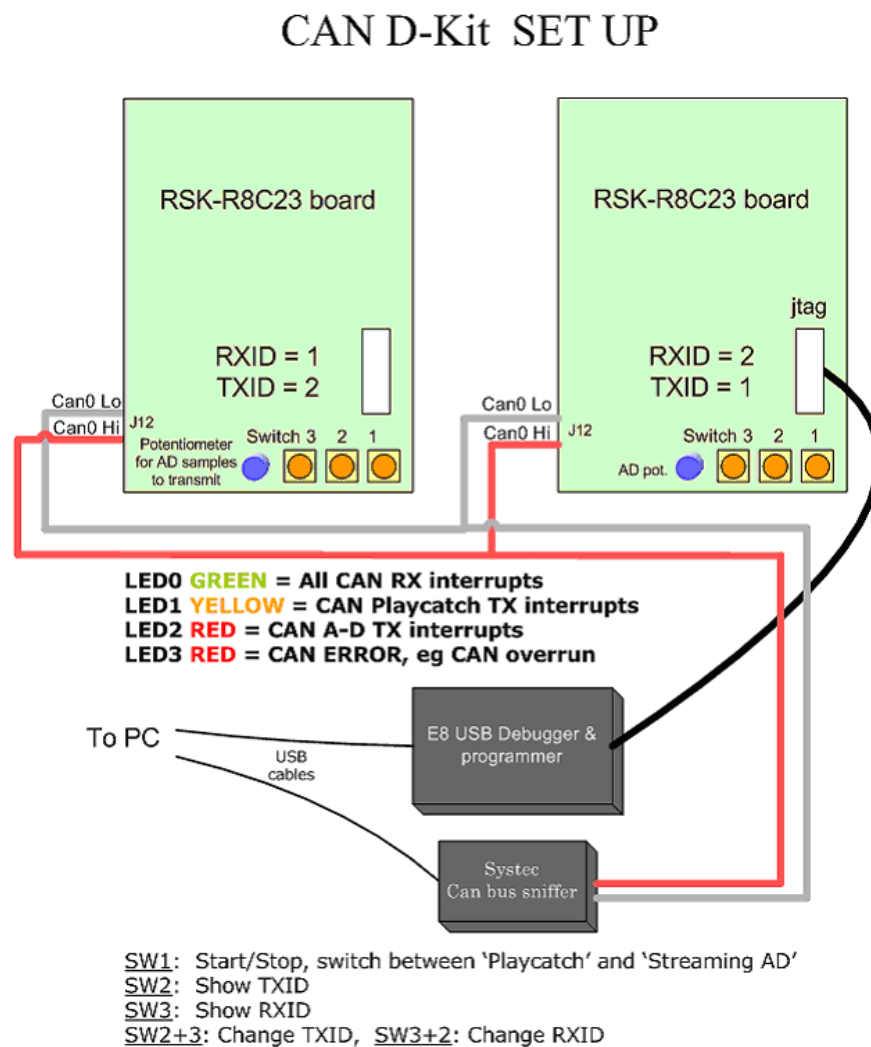

Figure 4: CAN D Kit Setup
The A-D conversion value will be sent onto the CAN bus and displayed by another board configured to receive frames with this message ID. The receiving board must be in Streaming A-D demo mode to show the received value. (The transmitting board does not necessarily have to be in Streaming A-D demo mode, only the receiver.) The receiving board's green LED0 lights up every time an 'A-D data frame' is received. Figure 4 shows the interconnectivity of all CAN D Kit components and the TX & RX ID settings for the A-D demo
- b.) **Set CAN Transmit and Receive IDs.** On one of your boards set TXID to 01h and RXID to 02h, on the second board set TXID to 02h and RXID to 01h as shown in Figure 4. The TXID of board 1 has to equal the RXID of board 2 and vice versa for the two boards to talk to each other. Press the Reset switch (partially covered by board's LCD) if you want to reset both the transmit and receive ID to one.
- h.) Send data frames from the sniffer. Press SW1 on one board until it is in A-D mode and set the other board to PlayCatch mode. Right click in the Transmit window, select New and set the ID to equal the RXID of the board that is in PlayCatch mode (011h or 012h if you have the IDs set as in Figure 4. Set frequency to 1000 ms, data length to 2, and the two data bytes to 12h and 34h. Press ok and check that 1234h is received and displayed on the PlayCatch board's LCD. Note that in the Sniffer's Receive window the data field of the message with the PlayCatch board's TXID is incremented to 1235h, as the board transmits the next PlayCatch value on the bus.